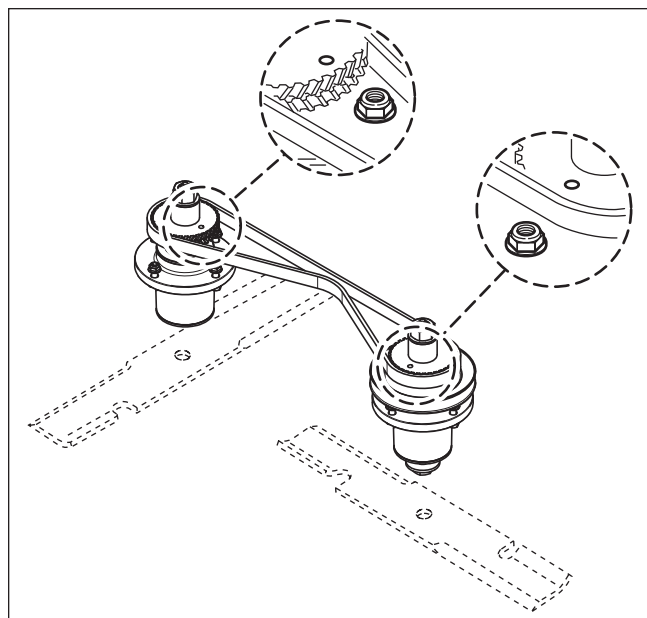

Figure 35. Blade Alignment
8. Refer to figure 35. Align the holes in the sprockets with the spindle mounting hardware is shown. The blades will be perpendicular to each other.